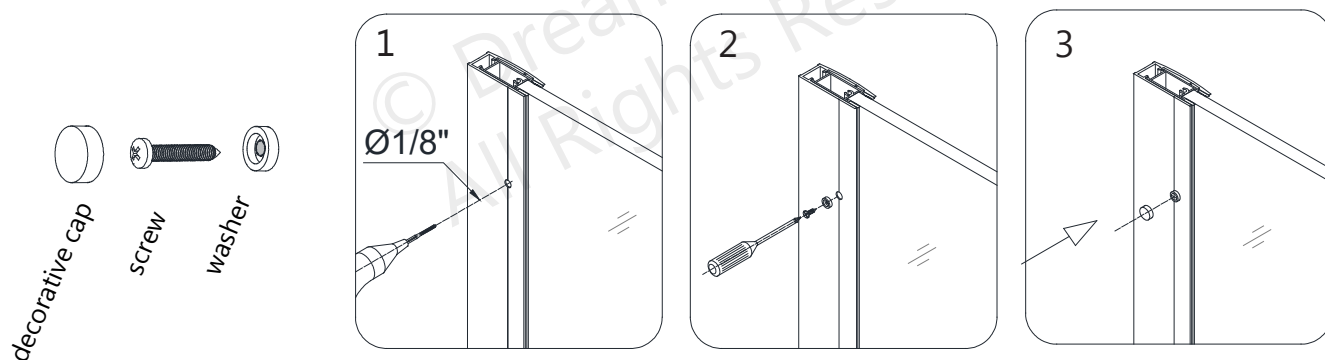

Fig 8
8. Recheck the alignment and spacing of the **Door Glass** and **Panel Glass (#11)** and test the operation of the Door. After final adjustments of the **Panel Glass (#11)** drill holes into the **Glass Profile (#10)** through the predrilled holes in the **Wall Profile (#09)** using an $\text{Ø}1/8''$ drill bit. Use the **Pan Head Screws ST4.2×10 (#14)** and **Washers (#17)** to attach the **Wall Profile (#09)** to the **Glass Profile (#10)**. Cover the exposed screw heads with **Decorative Screw Cover (#17)**. (Fig 8)